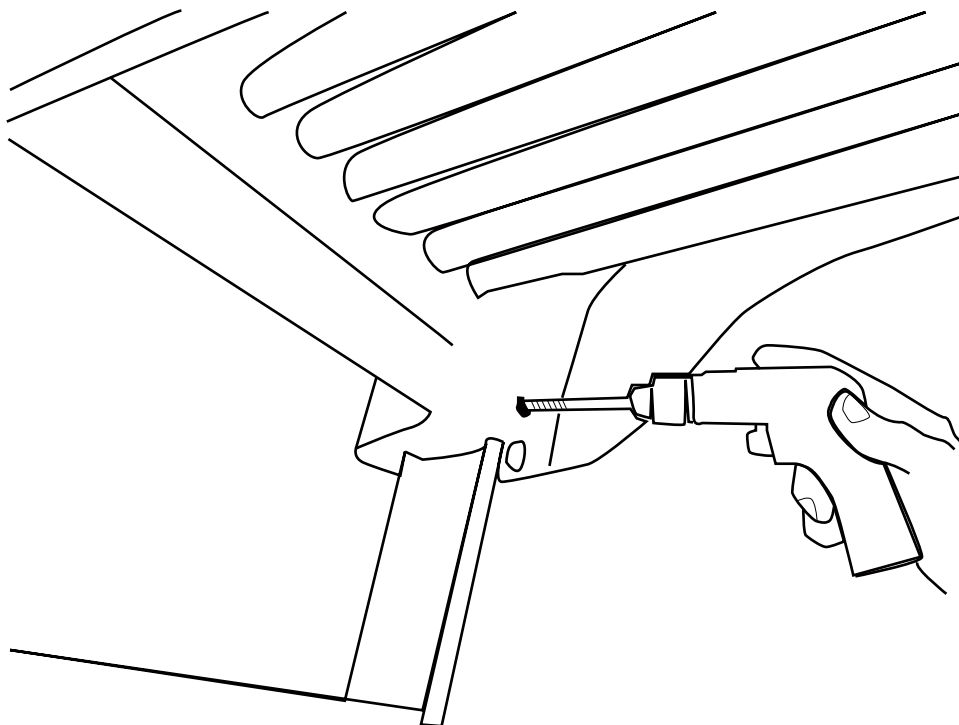

Figure 19
- 20) Underneath the top portion of the slide, on the inside flat surface next to the ladder socket, use the existing holes as a template to drill a 1/4-inch hole through each ladder side rail as shown below in Figure 19.